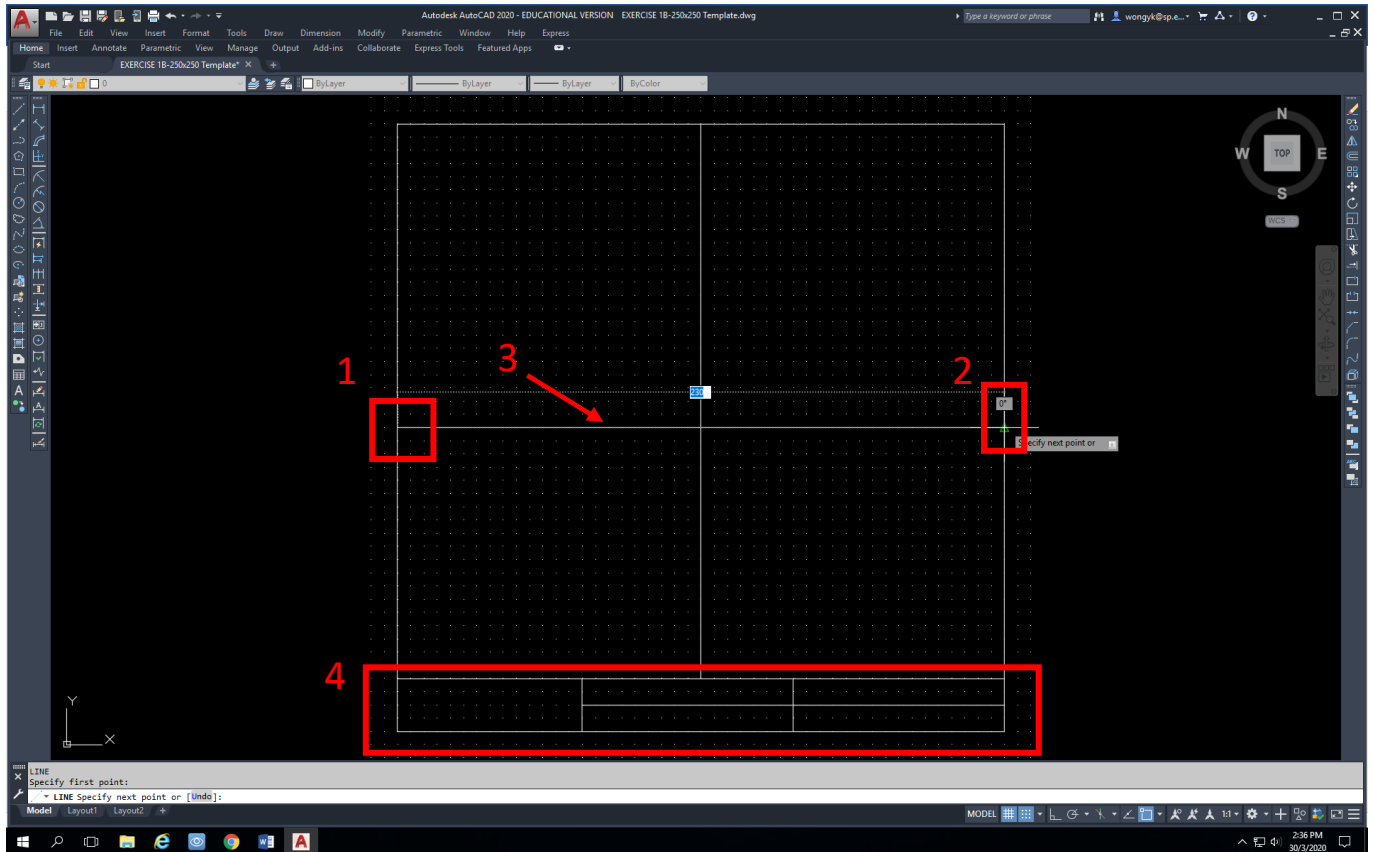

Fig 5
Next, draw a **horizontal line** across the working space from **midpoint of left vertical edge (1)** to **midpoint of right vertical edge (2)** Shown in Fig 5.